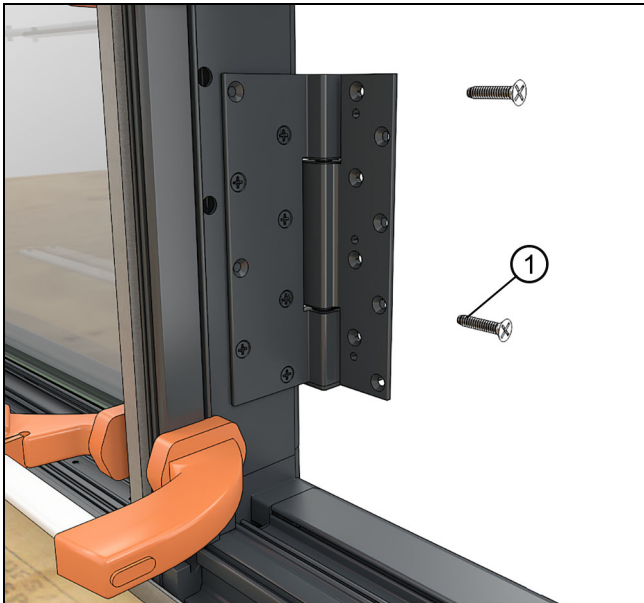
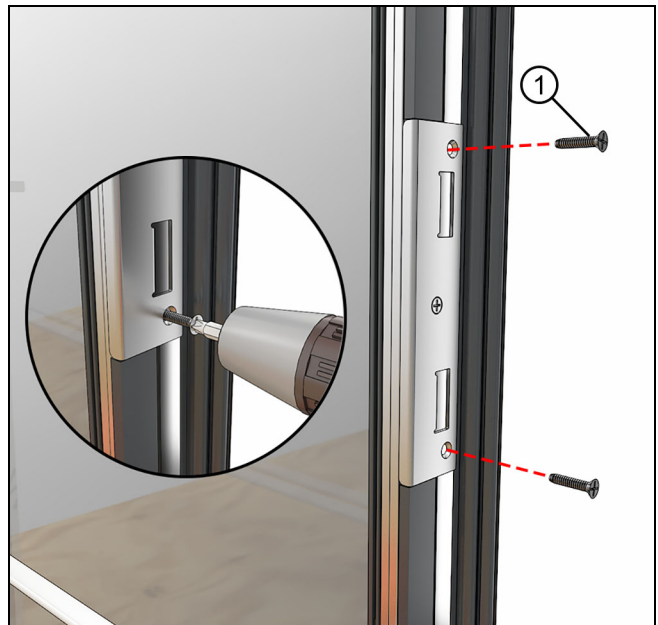

Figure 202 Outswing hinges shown.
Figure 205 Fasten strikes
22. Install the appropriate trilobular fasteners to attach through the hardware and frame into the mull pin (attached to the unit next to it). See Figure 202 through Figure 205. See the table from step 11 on page 50 for appropriate fasteners and locations.